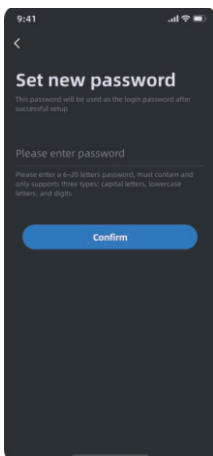

Figure 9
9) Figure 9: Enter the new password that meets the requirements, click "**Confirm**" to complete the modification, and you can use the new password to log in next time.